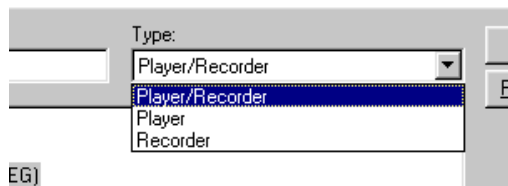

Figure 149. Choosing a channel type
2. Choose an appropriate channel type: **Player/Recorder**, **Player**, or **Recorder** (see Figure 149). Depending on the channel type, different codec or encoder/decoder information is displayed below the configuration tree as listed in Table 17.